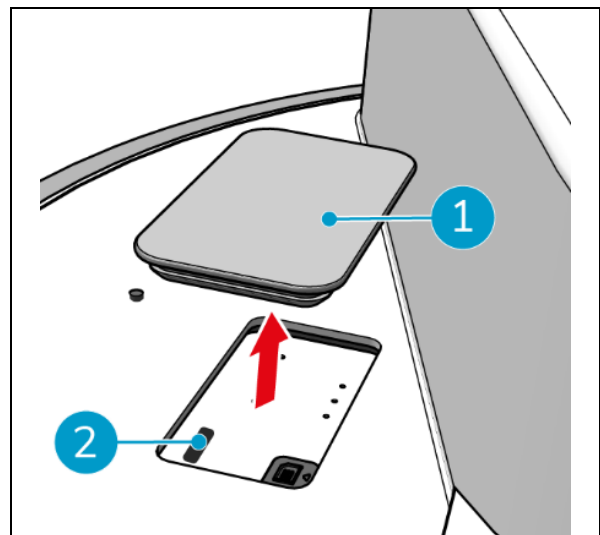

Figure 23
1. Remove the cover plate (Figure 23, pos. 1).
2. Open the rubber cap on the SIM card slot (Figure 23, pos. 2).